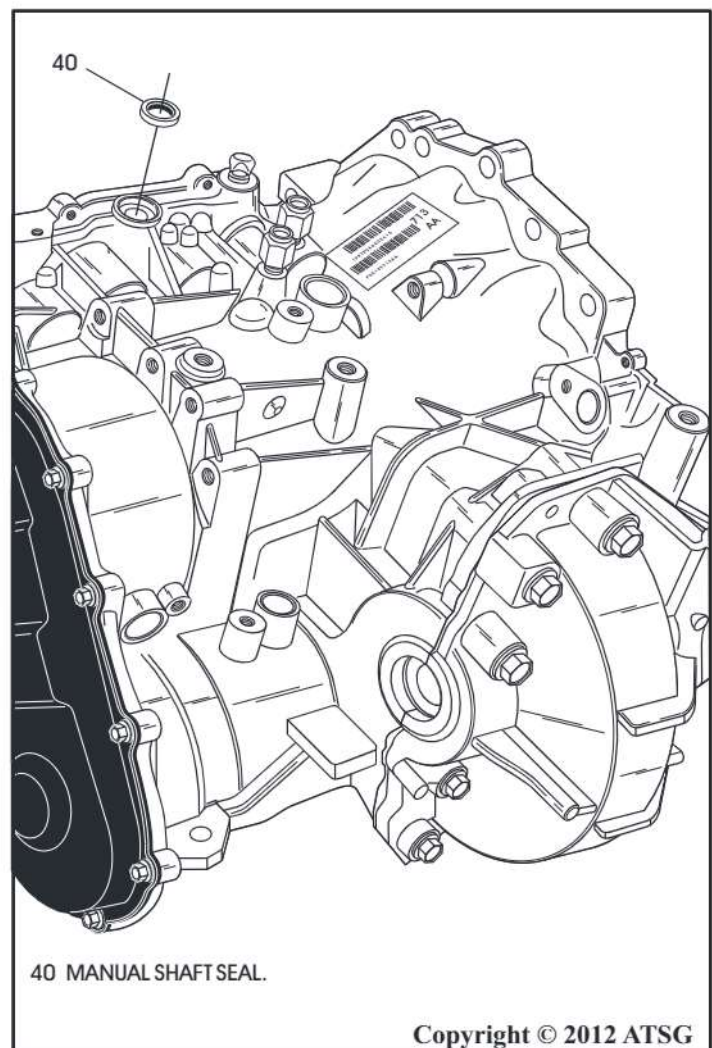

Figure 267
69. Install a new manual shaft seal into case bore, as shown in Figure 267.